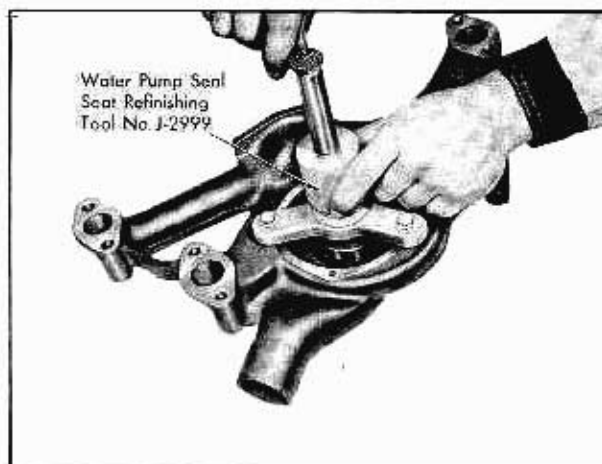

Fig. 13-6 Refinishing Water Pump Seal Seat
4. Examine machined seal surface in pump for scratches or nicks and refinish with Water Pump Seal Seat Refinishing Tool, No. J-2999A, as shown in Fig. 13-6.